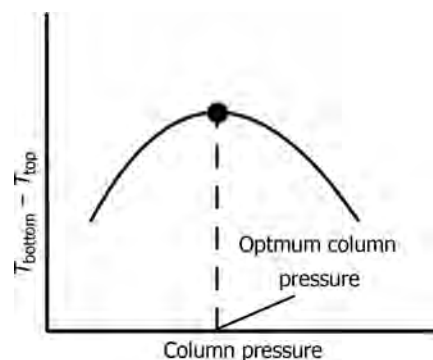

FIGURE 17.15 Optimum column pressure.
- Figure 17.15 illustrates this relationship.